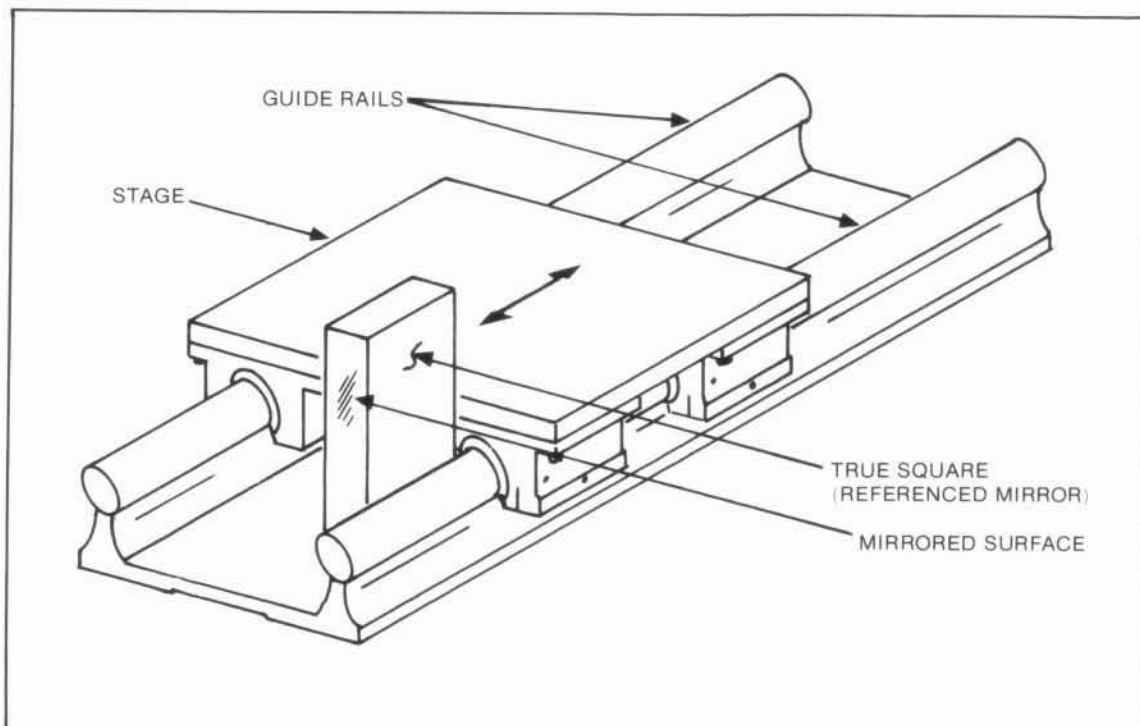

Figure 6-29. Using Reference Surfaces to Align Mirror
- Locating the mirror reference surfaces against fixed reference surfaces on the machine's positioning system. (e.g., ways, rails, guides) (See Figure 6-29).